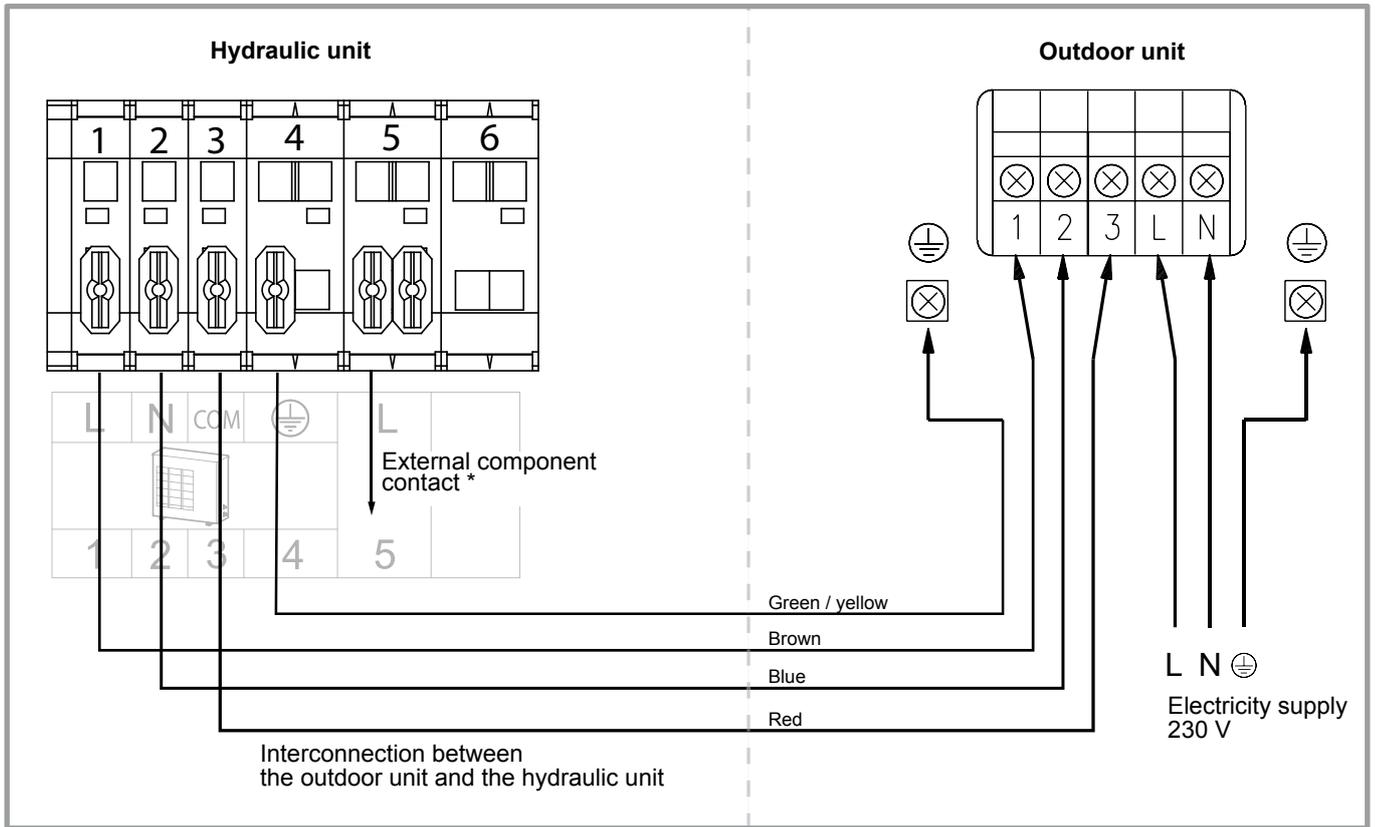

figure 27 - Connection to terminal block and power relays
- Make the connections in accordance with the diagram figure 27.